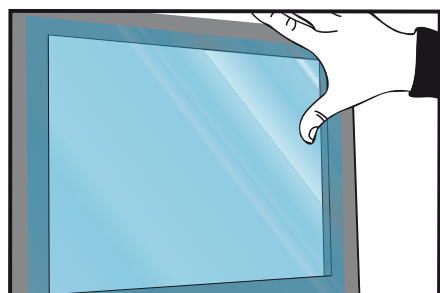

Figure 13
- › Start the application on the screen. Apply the film progressively. As you work on a transparent substrate, it is important to apply the film very evenly. This application can be carried out either with a squeegee (previously covered with felt), or by hand (wear cotton gloves). (FIG. 13)